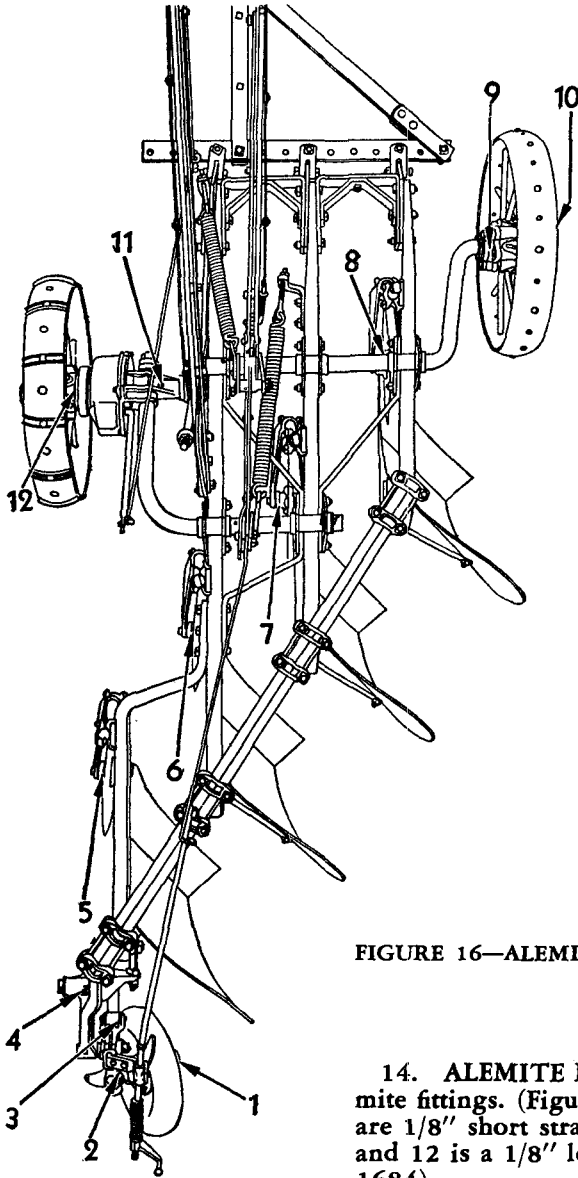

FIGURE 16—ALEMITE FITTINGS
14. ALEMITE FITTINGS.—Insert Alemite fittings. (Figure 16.) 1 to 11 inclusive are 1/8" short straight fittings (No. 1610) and 12 is a 1/8" long straight fitting (No. 1684).